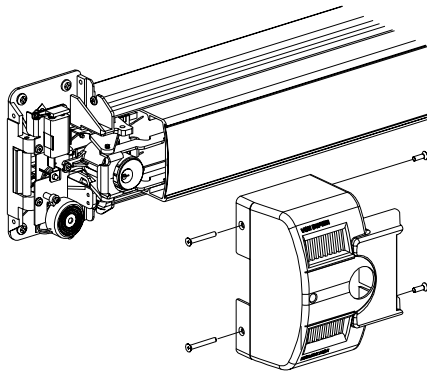

Figure 1
- 2** Remove center case cover (Figure 1).